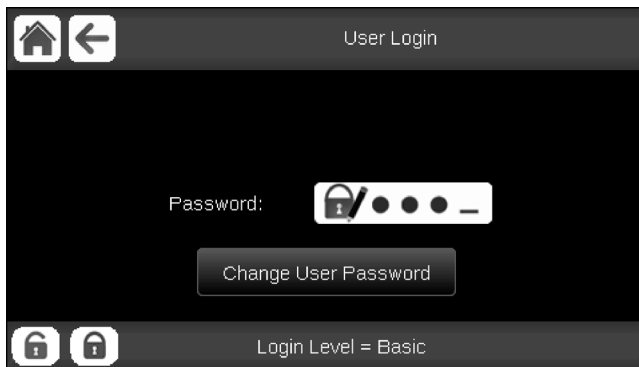

Fig. 5 — User Login Screen
- **User** — The User access level authorizes access to modify the Setpoint Configuration and some Configuration Menu parameters, as well as access to all menus accessible with the Basic mode. See menu structure on page 16. The default password for User level access is 11. To change the User access password, the user must first be logged in to User or higher level and go to **Login Menu** → **User Login** → **Change User Password**, then enter the old password and the new password. Confirm the new password, then press the Save button. After pressing the Save button, a pop-up window will indicate that the user password was changed successfully. Press OK to continue. (See Fig. 5.)